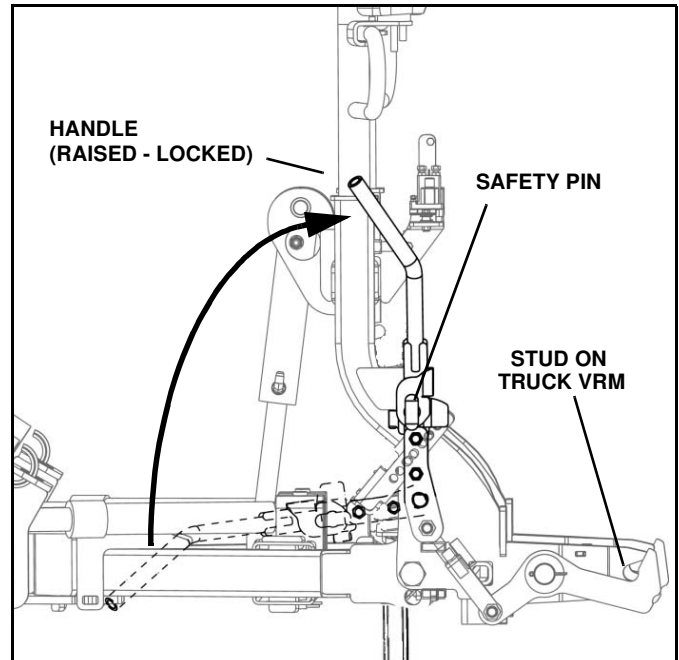

Figure 1-18
23. Pull up engagement handle to engage plow onto stud on VRM, ensuring that the safety pin engages fully. (See Figure 1-18).